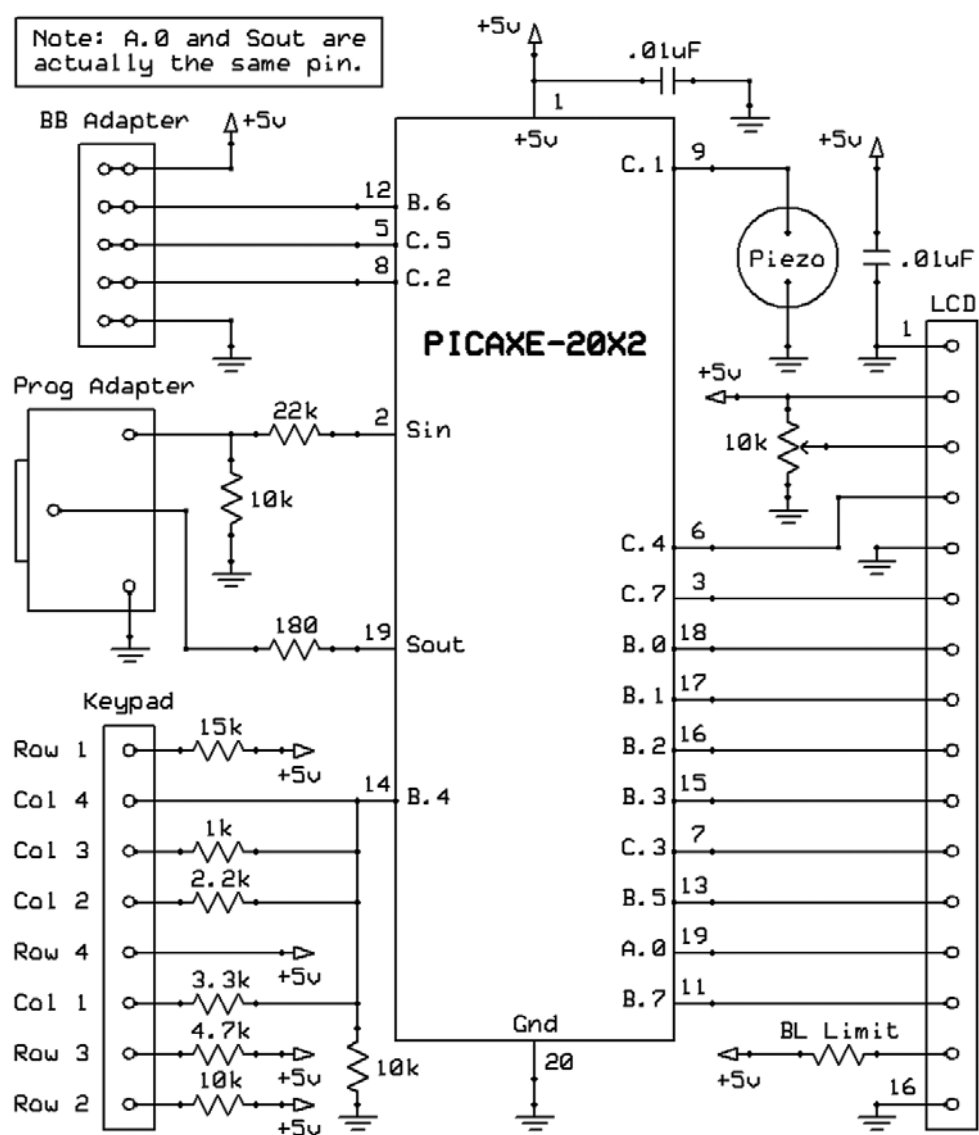
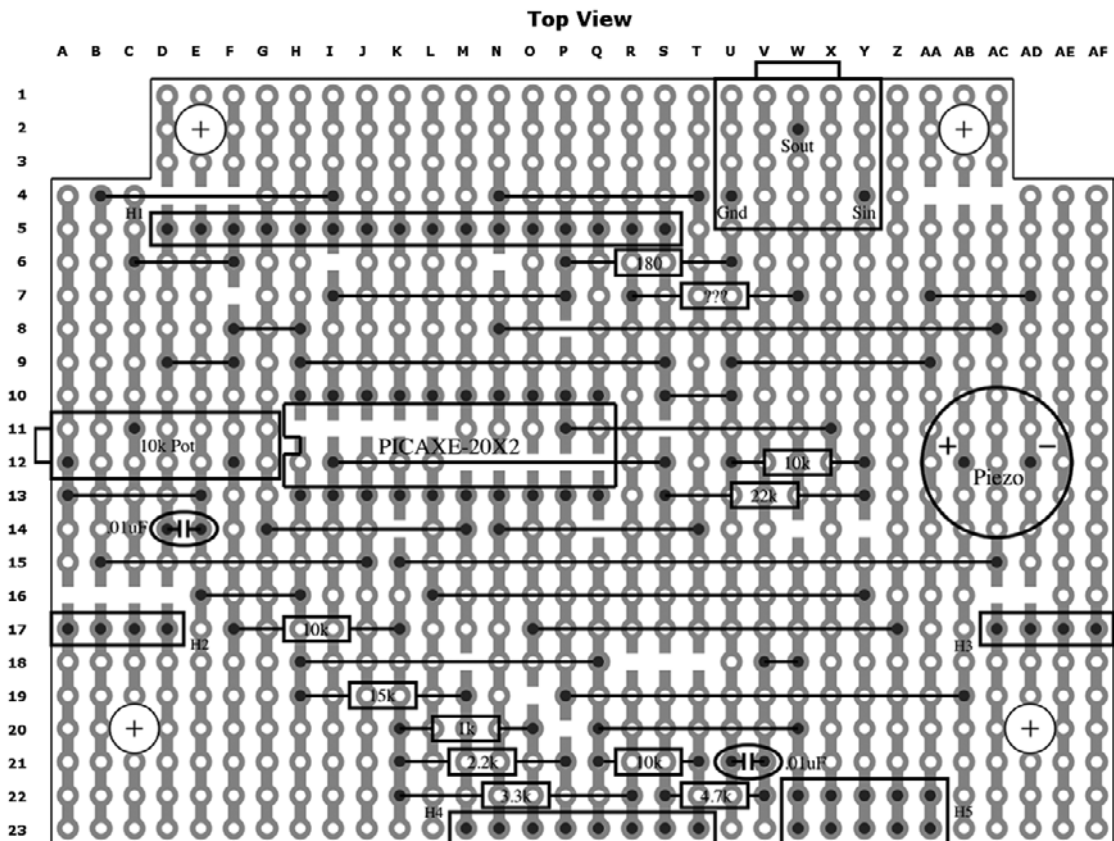
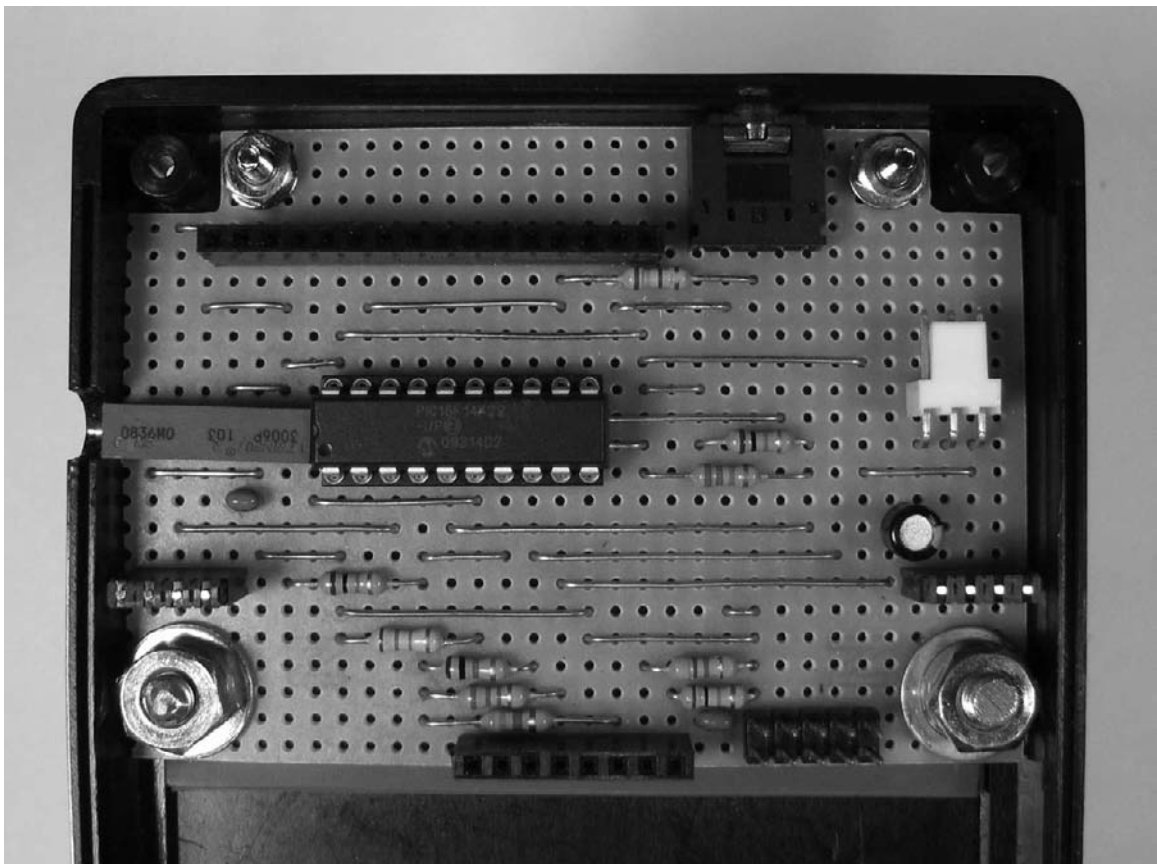

Figure 14-2 MPD schematic
Figure 14-3 Top view of MPD stripboard layout
Figure 14-6 Completed stripboard circuit installed in the bottom of the enclosure
Figure 14-2 presents the MPD schematic. The interface to our rotated matrix keypad is identical to that of our previous project in Chapter 13, except that pin B.4 is used for the analog input, rather than C.3—we'll find out why in Chapter 15. The LCD interface is also almost identical to the one we discussed in Chapter 10. The only difference is that the MPD uses pin C.3 as a
As usual, the first thing you need to do is cut and sand a piece of stripboard to the required size (32 traces with 23 holes each if you are using the same enclosure I did). However, because the stripboard needs to fit correctly into the enclosure, a fair amount of additional preparation is necessary before actually assembling the circuit. Start by cutting the two notches as indicated earlier in Figure 14-3, but don't drill the four mounting holes yet. Test-fit the board in the enclosure, making sure that the top edge of the board can fit tightly against the edge of the bottom half of the enclosure. Next, securely tape the stereo connector
the adjustment screw on the potentiometer. Once that’s done, you’re ready to drill the four mounting holes as shown earlier in Figure 14-3. The diameter of the holes depends upon the hardware you use to mount the board in the enclosure—7/64 inch (2.8 mm) works well for #4 bolts, and 9/64
To help clarify the following assembly procedures, Figure 14-6 presents a close-up photo of my completed stripboard circuit installed in the enclosure. However, my circuit does differ slightly from that of the schematic (Figure 14-2) and layout (Figure 14-3) presented earlier, so don't use Figure 14-6 as an assembly guide; just use it as a guide for installing the stripboard in the enclosure.
used because I soldered it directly to one of the speaker contacts—it was simpler to do it that way. I also added the three-pin, right-angle header that you can see in Figure 14-6 (I didn't have a two-pin header available) so that I can disconnect the board from the speaker if needed. You could also solder the speaker leads directly to the stripboard if you prefer.
The second reason for the differences in my circuit is a little more involved. When I first designed the circuit, I intended to use the same software that we discussed in Chapter 11 to interface the keypad. However, after experimenting with the MPD for a while, I realized that it would be much more efficient to employ an interrupt-based approach to obtaining user input. To do so required some modifications to the circuit. The schematic presented earlier in Figure 14-2 and the layout of Figure 14-3 both reflect the necessary changes. However, rather than constructing an entirely new stripboard, I took the easy way out and “ugly-wired” the changes on the board that I had already built.
So use Figures 14-2 and 14-3 to construct your version of the MPD and Figure 14-6 for reference when you install the stripboard circuit in your enclosure. When we get to the point where we test the completed MPD, we'll just use the same approach that we did in Chapter 11. In Chapter 15 we'll get into the details of the interrupt-driven approach. In spite of the additional complexity, I think you'll agree that it's a much more powerful method of processing user input.
Before we actually begin construction of the MPD stripboard, one other aspect of the photo in Figure 14-6 requires clarification. When the stripboard is installed in the enclosure, it rests on two thick plastic ridges on each side of the enclosure. As a result, tightening the four mounting bolts causes the stripboard to flex downward. To avoid possibly cracking the board, you will need to include some sort of spacer underneath each mounting point. I used a rubber
2. Sever the traces on the bottom of the board at the 36 holes shown in Figure 14-3.
When you have completed the assembly procedure, use the photo in Figure 14-6 as a guide for installing the stripboard in the upper portion of the bottom of the enclosure. Once that's done, we're ready to complete the installation of the remaining components. Figure 14-7 is a photo of my MPD after installing the speaker, the ribbon cable, and the rotated keypad. It may be hard to see in the photo, but I had to cut away a small portion of the keypad's circuit board to the right of the header pins in order to insert the ribbon cable connector into the 5×2 header on the stripboard. To make the cable, I used a 6-inch (15-cm) piece of 10-wire ribbon, but 9-wire cable will also work fine. The orientation of the cable and the two 5×2 IDC connectors is important. With the (red) stripe on the left (as shown in Figure 14-7), install the 5×2 IDC connector in the photo so that it's facing *down*. Also, you will need to remove a thin slice of plastic from the enclosure where the ribbon cable exits; a sharp hobby knife will do the job quickly and cleanly.